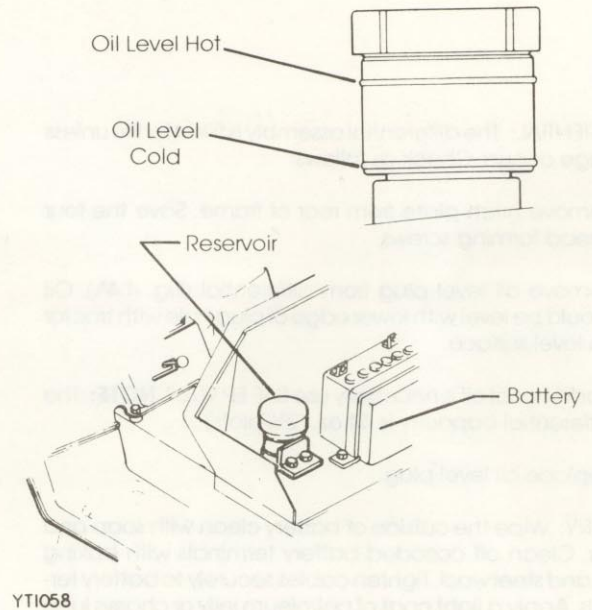
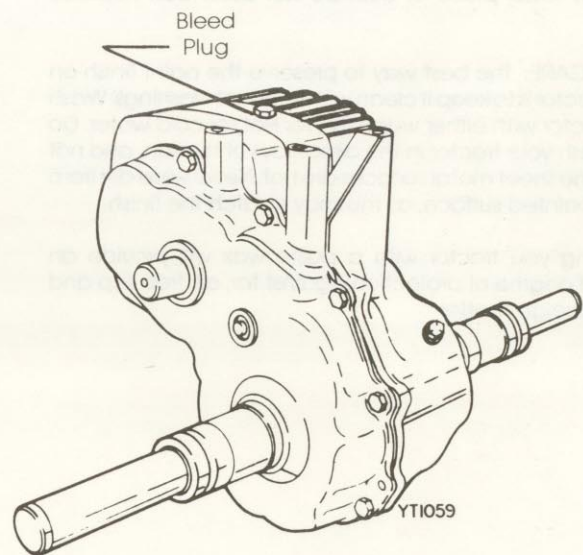

FIG. 4.3A
FIG. 4.3B
Refer to Fig. 4.3A.
- F. Clean area around air bleed plug and then remove it (Fig. 4.3B). Remove the cap from the oil reservoir (under engine hood next to battery) Fig. 4.3A and add detergent oil (SAE 20) until oil level rises to the very top of air bleed opening. Replace air bleed plug and firmly tighten. Continue to add oil until oil level reaches cold level mark. Replace cap. **IMPORTANT:** Do not overfill.